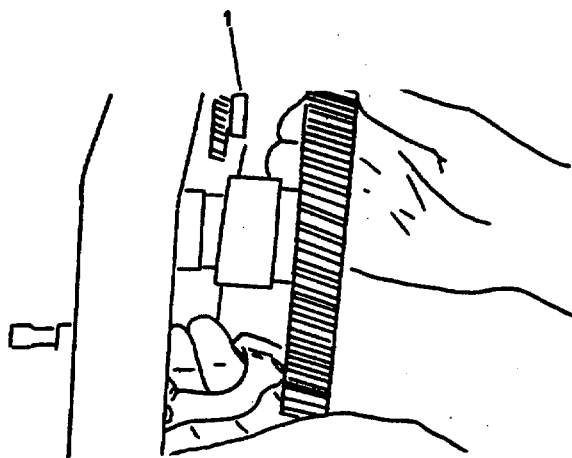

FIGURE 3-75. Woodruff Key.
- e. Put woodruff (1, FIGURE 3-75) aside for replacement.